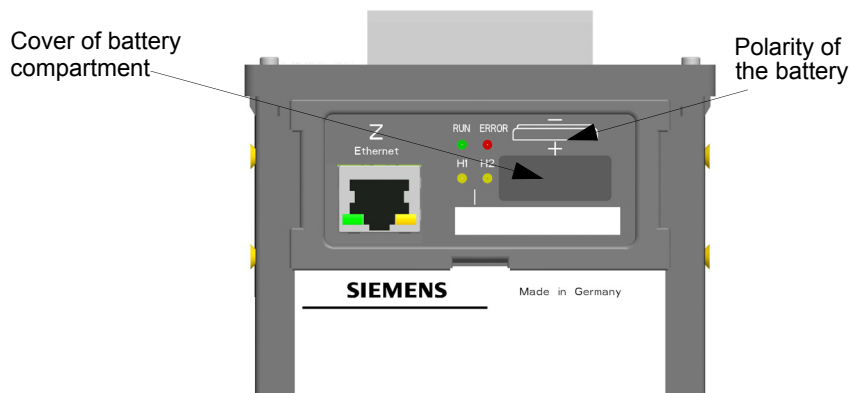

Fig. 5-1 Top Side of the SICAM AI Unit
- ✧ Insert the battery into the battery compartment with the polarity imprinted on the top side of the device (see Figure 5-1).